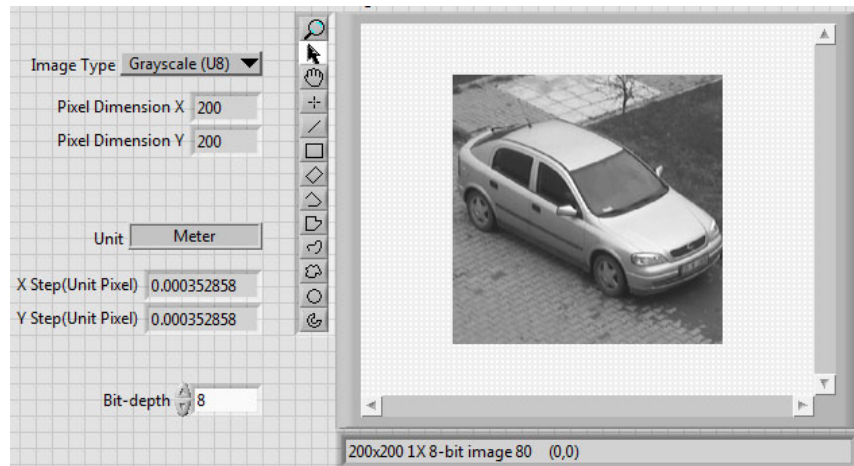

Figure 6: Front Panel of Exercise 2
1. Open **Exercise 1** and add a **Numeric Control** and name it as **Bit-depth**. Change the default value of **Bit-depth** to 8 as shown in Figure 6.